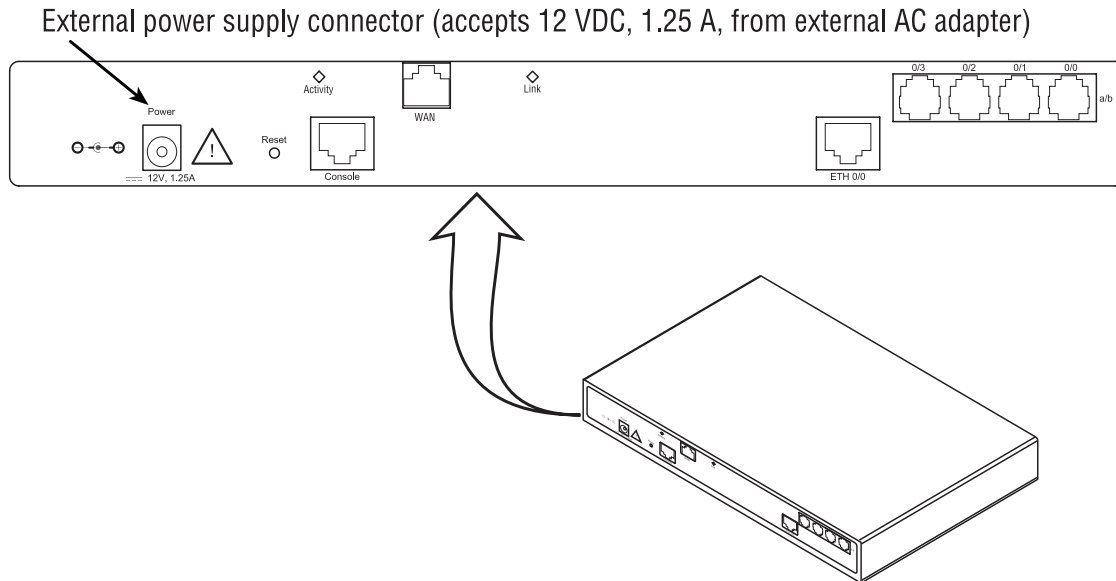

Figure 3. SmartNode 4834 power input connectors
- *EUI* stands for external universal input power supply (see figure 3)